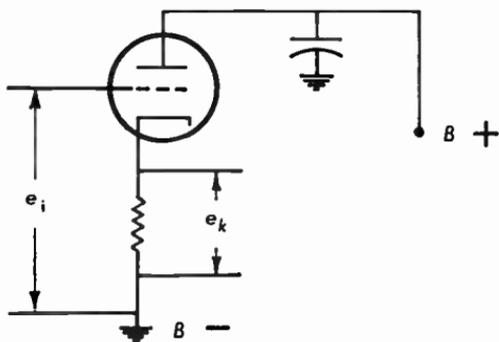

Fig. 11.40a Cathode follower, using triode tube.
11.40 In the cathode follower circuit of Figure 11.40a,  $R_k = 1500$  ohms,  $r_p = 10,000$  ohms,  $\mu = 25$ . Find the stage gain of the circuit.
11.41 Derive the general solution for the gain and the output impedance of the cathode follower circuit of Figure 11.40a.